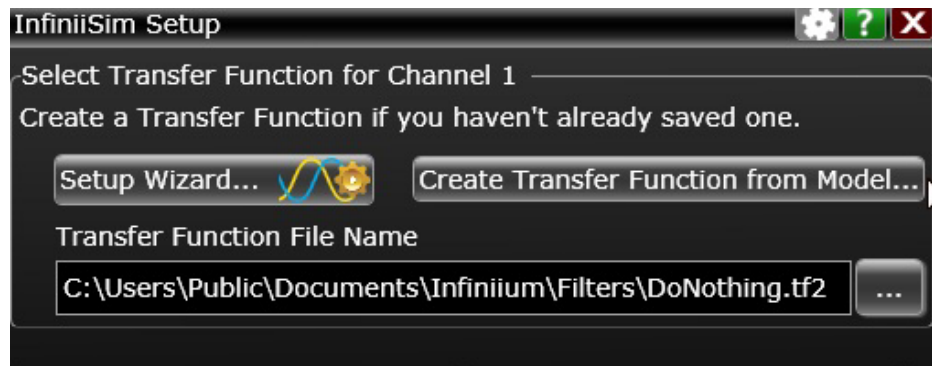

Figure 11 InfiniiSim Setup Dialog - 2 Port Channel 1
- 5 On the **InfiniiSim Setup** dialog that appears, click the **Create Transfer Function from Model** button to initiate a transfer function (see Figure 11).